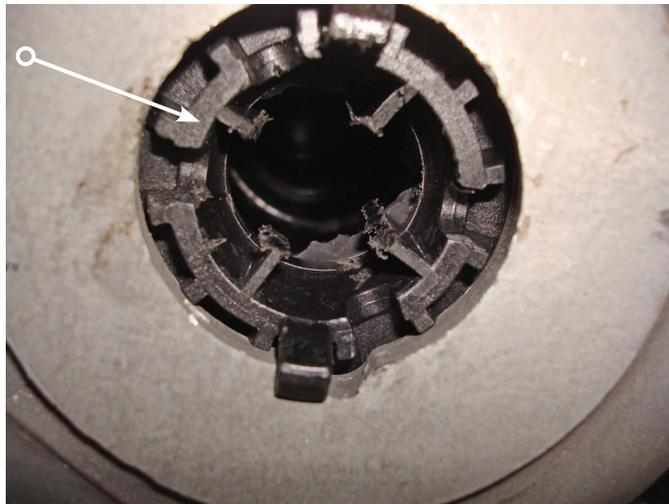

fig. 4
5. To do this you can use a hack saw blade (or anything comparable) and cut each rib out creating access in the center of the lower spring seat, to the cylinder that will be installed (Fig. 4). Try to smooth any sharp edges with a rat tail file or Dremel tool.